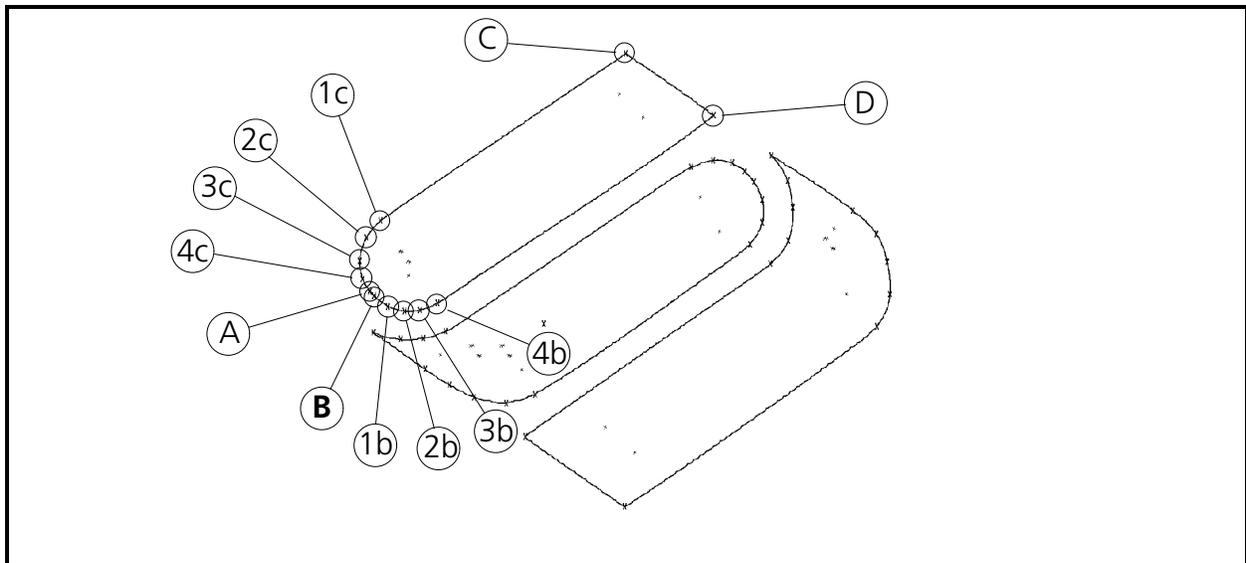

Figure 6-76
Refer to Figure 6-76 to define the sides of the fill. Remember to define the first side beginning with point B.
9. To define the curvature of the arc from point B to the area where the line straightens, change the toolbar Mark selection to Mk1 and enter Mk1s repeatedly around the arc to the straight area (see 1b through 4b in Figure 6-76).